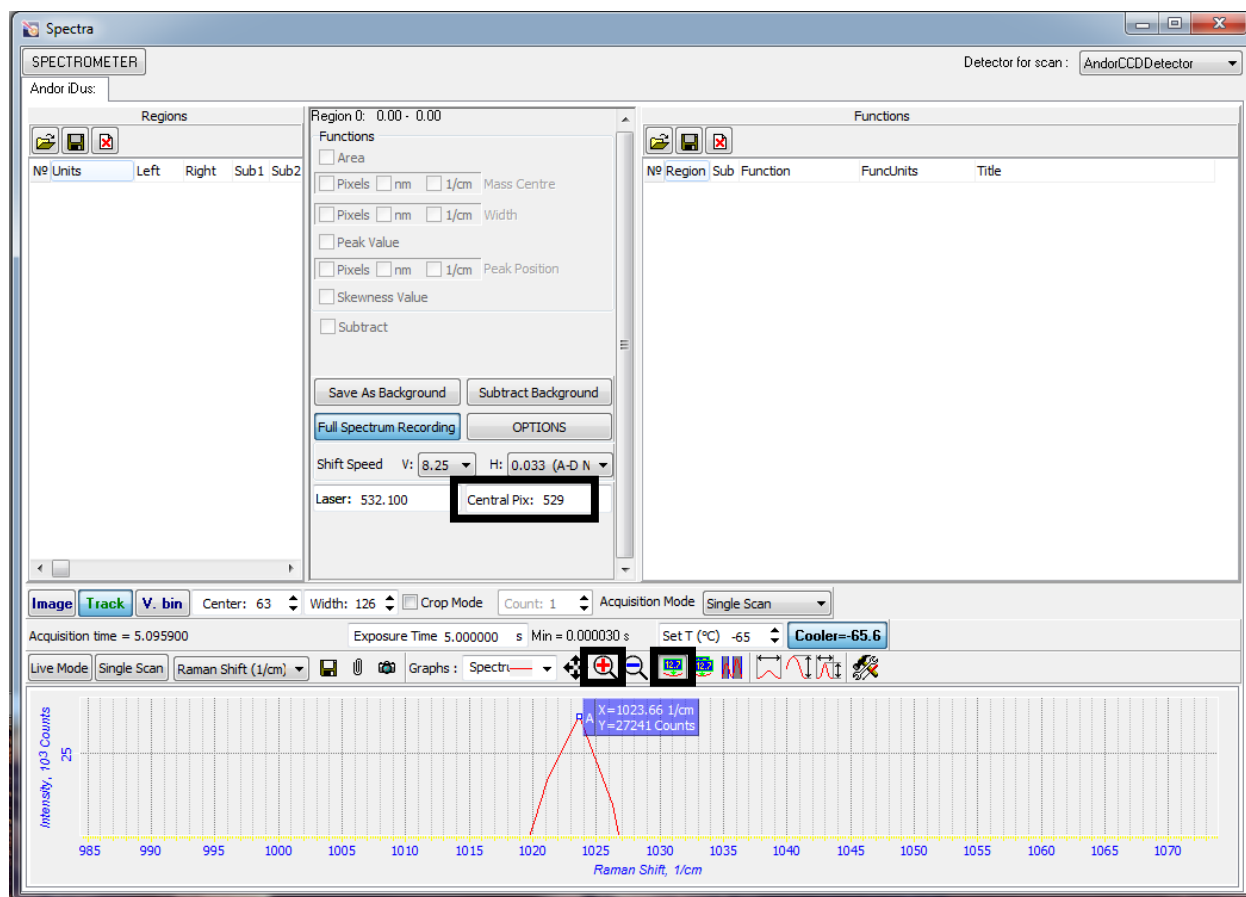

Figure 1: Uncalibrated 1001.4 cm^{-1} polystyrene peak, measured at 1023.66 cm^{-1}
11. Zoom in on the 1001.4 cm^{-1} peak using the magnifying glass icon (Figure 1).
12. Measure the peak using the peak position icon (Figure 1).
13. To calibrate the peak the “central pix” (Figure 1) value needs to be adjusted, the represents a physical pixel on the CCD of the camera that means it must be an integer. By changing the “central pix” the calibration peak can be shifted towards 1001.4 cm^{-1} (Figure 2).